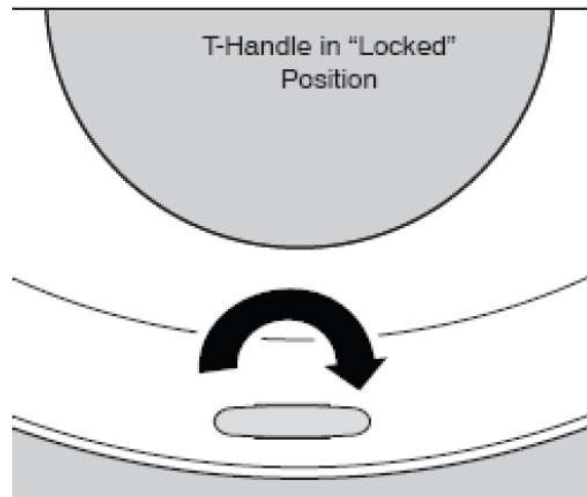

Figure 40
62. Seat the water shroud platform on the stainless steel ring. Press down on the water shroud platform. Turn the T-handles 90 degrees to lock the latch beneath the stainless steel ring. See Figure 40.